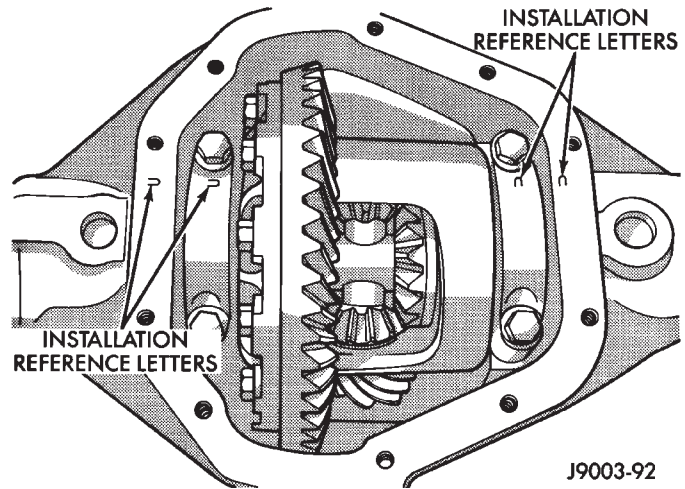

Fig. 29 Differential Bearing Cap Reference Letters
- (4) Remove the dial indicator.
- (5) Install differential case in the housing. Ensure that the differential bearing cups remain in position on the differential bearings and that the preload shims remain between the face of the bearing cup and the housing. Tap the differential case to ensure the bearing cups and shims are fully seated in the housing.
- (6) Install the bearing caps at their original locations (Fig. 29).
- (7) Loosely install differential bearing cap bolts.
- (8) Remove axle housing spreader.
- (9) Tighten the bearing cap bolts to 77 N·m (57 ft. lbs.) torque.
- (10) Install the axle shafts.